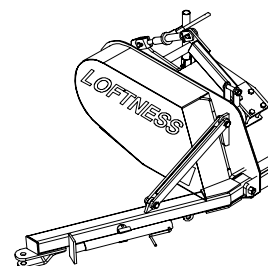

Figure 8
6. Lower the end transport hitch and lock into place with the pin in the upper link Rotate the jack 90 degrees from stored position to assist in connecting the shredder to the tractor.(see figure 8)